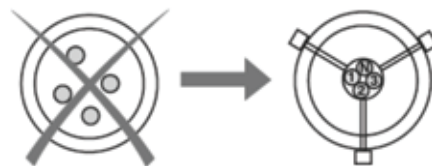

Fig. 4
3. Ensure the cable is central in the toroid (see Fig. 4)